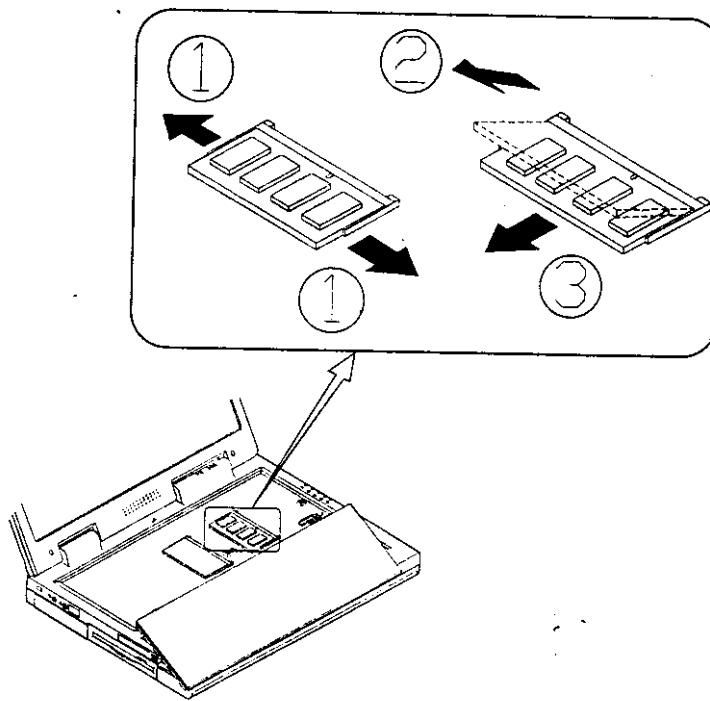

Figure 2-9
4. Gently pull the two latches outward on both ends of the module. The module will pop up (Figure 2-9).